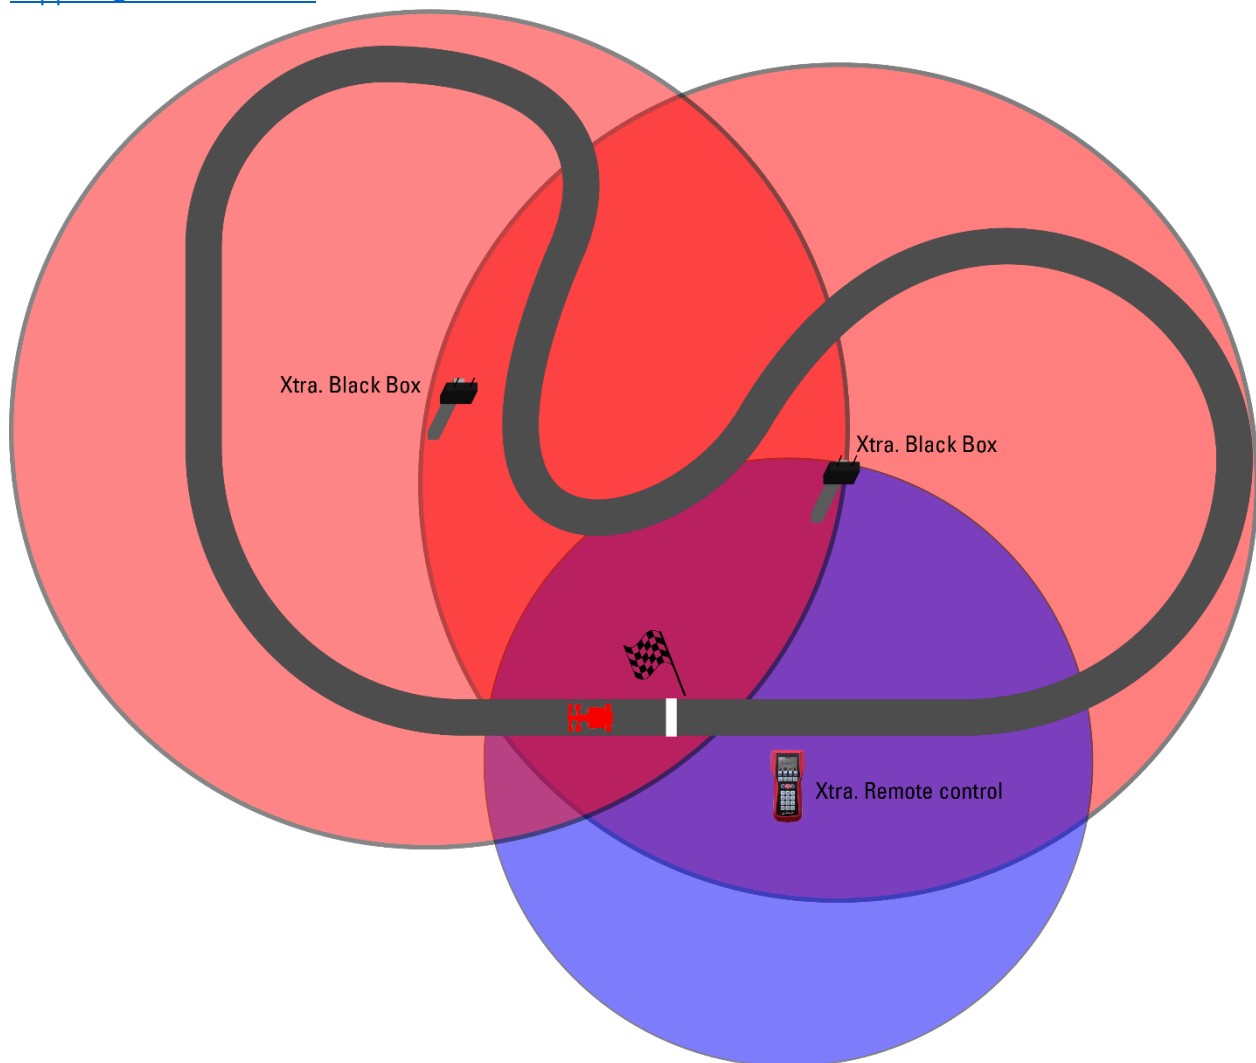

Figure 2 Best placement to extend the range
- No obstacles between the Xtra.Black Box and the go-karts, see paragraph 11 figure 2.